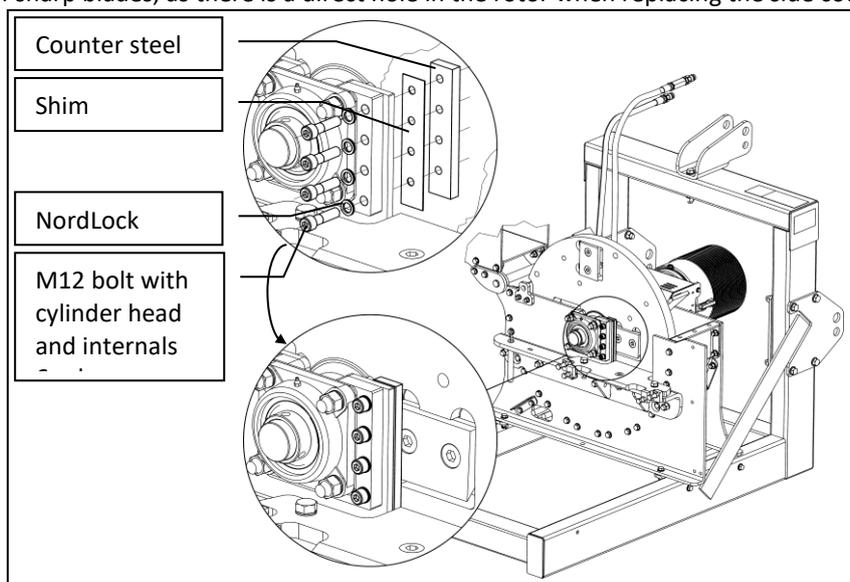

Figure 28
3. There is now access to the side resistor (see Figure 28).
6. The new side mod steel can now be mounted as shown on the Figure 28, with a number of shims to provide the desired counter steel height, with M12 bolts with cylinder head and internal 6-edge, and NordLock washers.